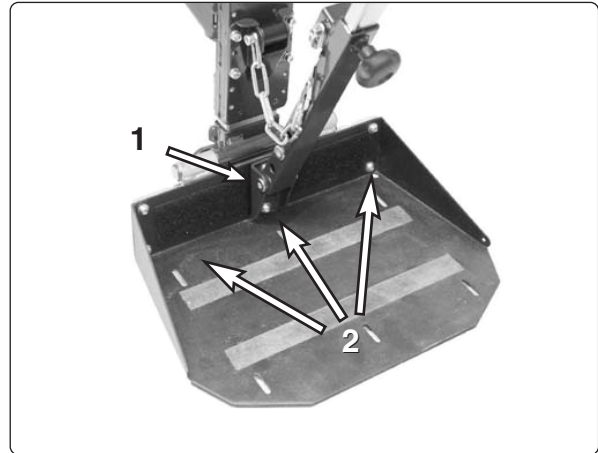

Fig. 24. Fastening screws for the knee rest and foot plate.
2. Unscrew and remove the knee rest. It is mounted with a screw, see Fig. 24:1.
3. Unscrew and remove the six screws holding the foot plate, see Fig. 24:2.